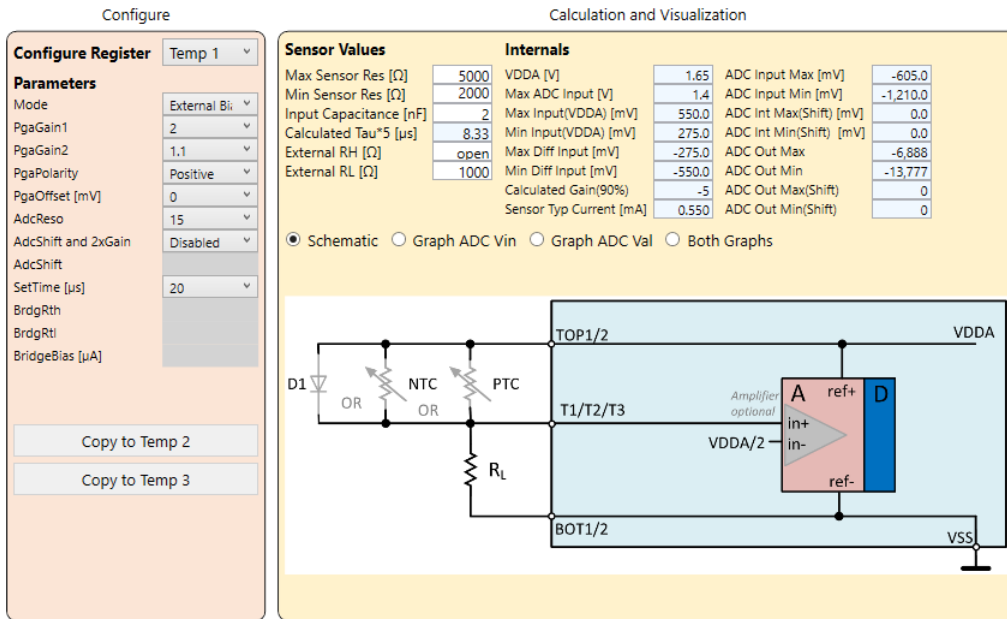

Figure 56. Mode Source External Bias Low
- The diode/NTC/PTC transducer is supplied through an external resistor tied to VDDA (Reference 3). This is active when the “External RL” (selectable in the Sensor Values section) is not set to “open” or “0” (Figure 56).